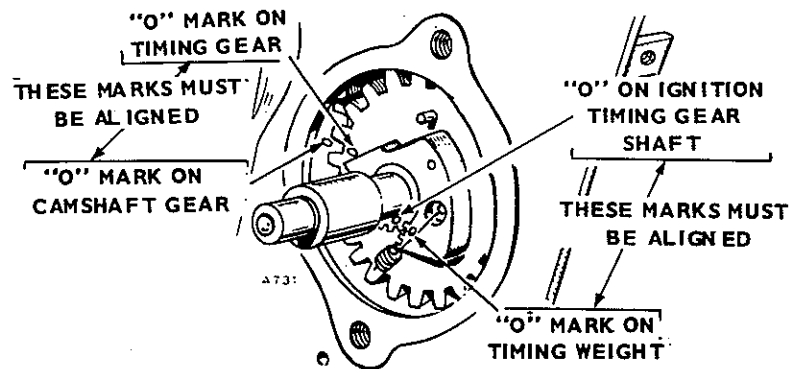

FIGURE 10-47. ALIGNING TIMING MARKS
1. Install springs on weight assemblies. Install cam on gear shaft, being sure to align timing marks, Figure 10-47, and install cam spring. Weights should snap outward between 1000 and 1075 rpm. If necessary, adjust by lightly bending one or both spring anchor pins toward center of gear.